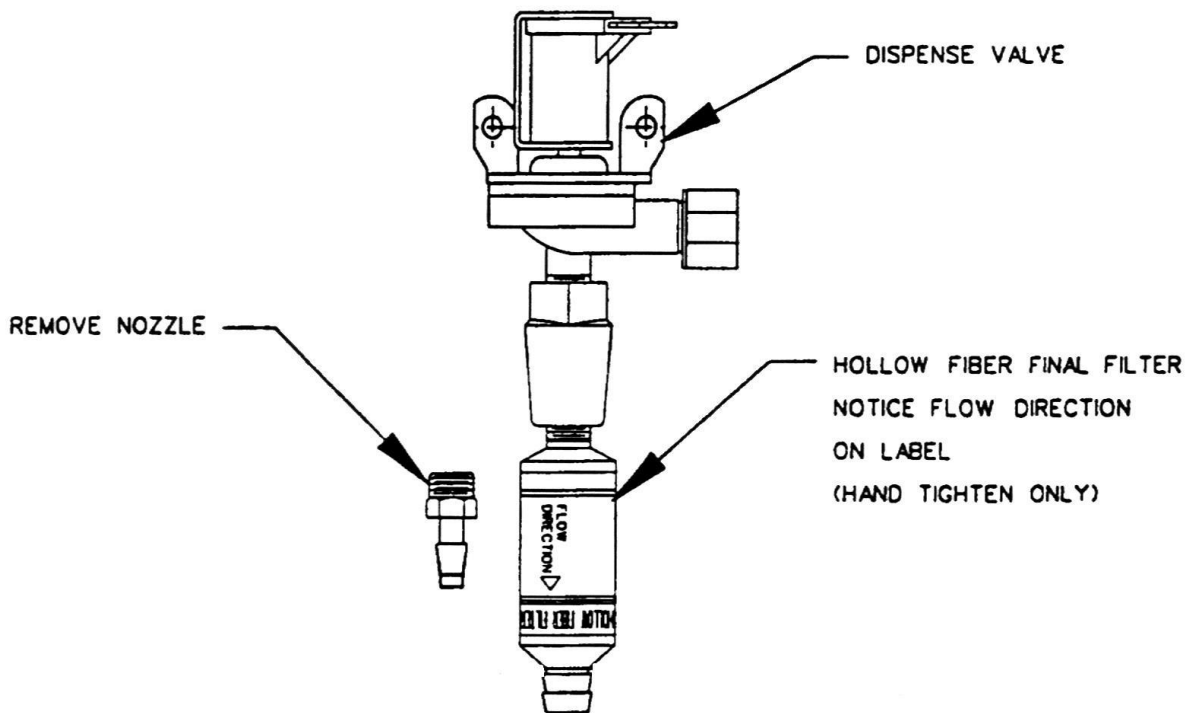

Figure 4
4. If the optional filter Catalog number 9092900 has been ordered, remove it from its plastic bag and thread it into either the dispense valve or the gun. The nozzle on the valve or gun must be removed before installing hollow fiber final filter. Orient filter as shown on label. **HAND TIGHTENS ONLY**. Reference Figure 4.